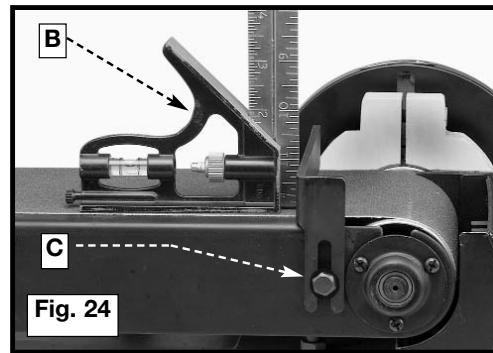

Fig. 24
2. Place a square (B) Fig. 24 on the sanding belt with one end of the square against the backstop. See if the backstop is square with the sanding belt.
3. Loosen the screw (C) Fig. 24 and adjust the backstop.